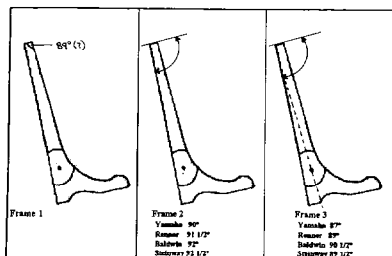

Figure 1
My purpose for writing concerns the jack top profile and the profile of the repetition lever's window of the grand wippen. The back corner of the top of the jack is, of course, rounded, but the top itself seems to be some kind of arc which starts lower at the back of the jack, [and] rising slightly as it goes toward the front (the jack tender side). (See Figure 1, frame 1).
*Here are measurements I made on four jacks: (Refer to Figure 1, frames 2 and 3. Frame two shows the angle of the jack top to the back edge of the jack. Frame 3 indicates the angle of the jack top to a line between the jack corner and the jack centerpin).*